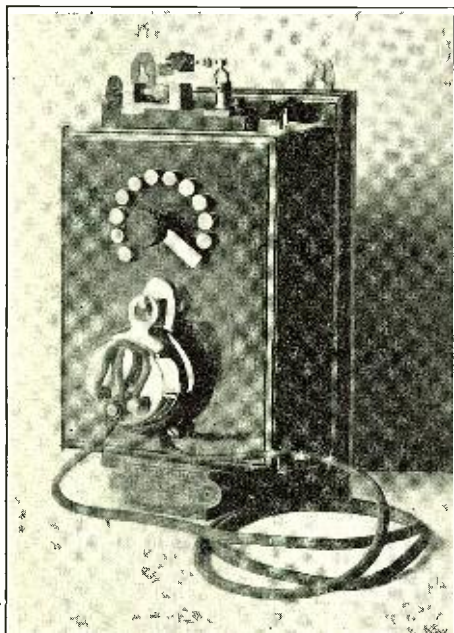
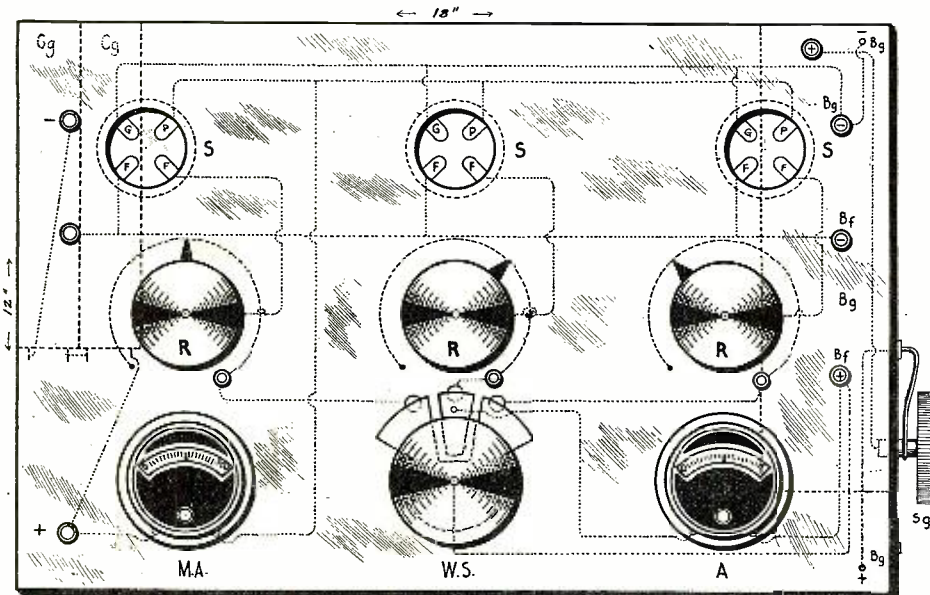

Fig. 1. This Time Signal Receiving Set May Be Fastened on the Wall Like an Ordinary Telephone.
Fig. 2
The circuits of this oscillator are shown in the diagram of Fig. 1. The closing of the switch places the field magnetizing coil directly across the battery. Also across the battery is the primary of the input transformer in series with the microphone but-
ing outfit and is shown at Fig. 1. It is very simple of operation and is specially designed for postal and telegraph service as well as for jewelers in securing daily time signals transmitted by the powerful Eiffel Tower radio station. The set is nothing more than an inductance tapt to a twelve point switch, a galena detector, a small fixed condenser and a 2,000 ohm receiver. The detector employed may be seen at Fig. 3.
The particular use of each of the above pieces will be readily understood by reference to Fig. 1, by the amateur who has reached that point in radio work, where he wants to experiment with the radio phone. Fig. 2 shows the top view
The oscillating circuit shown in the hook-up of Fig. 1 is one often given in the latest text books and magazines as a generator circuit of high power and a *persistent* oscillator. In fact, the writer, at the Bureau of Standards in the summer of 1918, with a slight modification of this circuit, obtained from a single plitron tube a current of 65 amps. in the coupled circuit, and over 100 amps. with the use of three tubes. Our present hook-up is giving us a maximum current of over 4 amperes in the primary circuit with one VT-2 Western Electric tube and .6 amperes in aerial, and, with three tubes six amperes and 1.25 respectively; three tubes of Marconi VT-1 class 2 type give 3.5 and .6 respectively. The wave length is readily controlled by the variable condenser Cp and the number of turns in L1 and L2. The number of turns in L1 and L2 are to be approximately equal and must not be too few in number or modulation, and oscillations cease; we have found 7 outer turns the best to use. The coupling should be sufficiently loose between L1 and L2 with L3
The individual characteristics of the several tubes used in parallel as shown in Fig. 1, should be closely similar for good modulation. The tubes, as now manufactured, so well meet this condition that little trouble due to this cause should be encountered.
Thru the use of a high tone buzzer as a "chopper" of the high frequency currents in the aerial circuit at Z of Fig. 1, distances considerably further are being reported. This buzzer for Morse code, key sending, is started and kept in continuous vibration and the grid key is used to control the high frequency oscillations of the tubes. Its shrill tone, together with the undamped (CW) oscillations seems to have wonderful carrying powers.